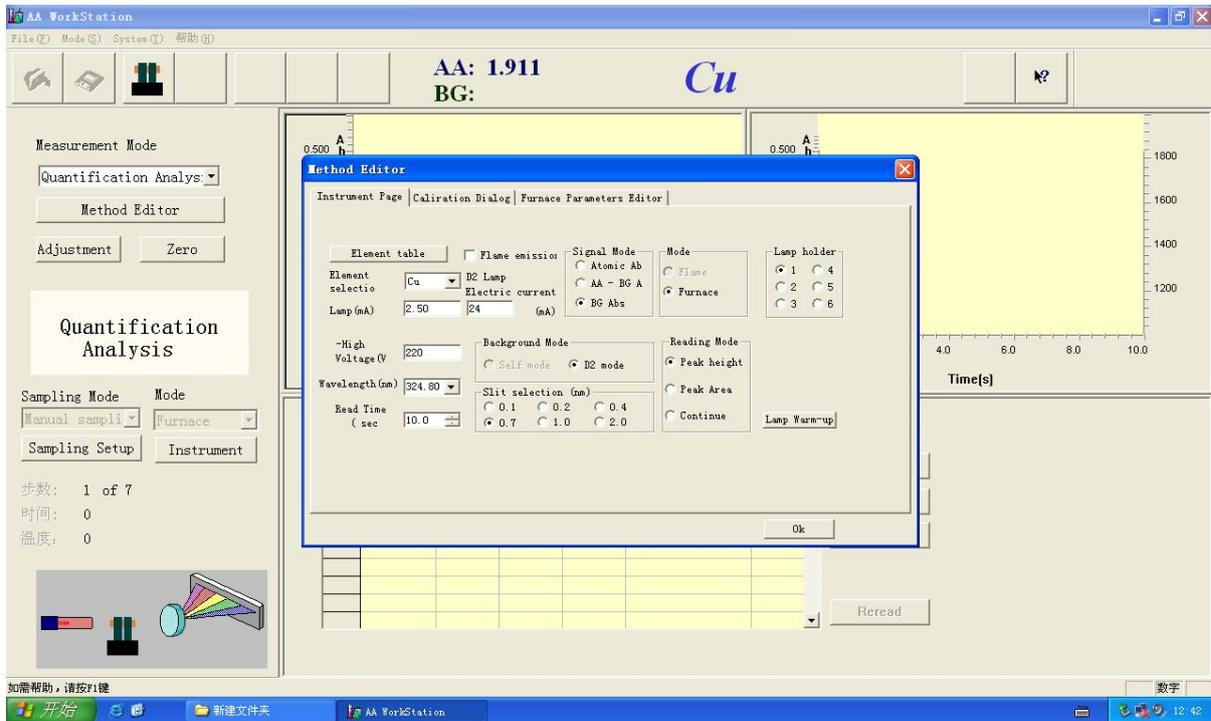

Figure 4-24
c. Select the "BG Abs" on "Signal Mode", the text box of "D2 lamp electric current" is valid (Figure 4-24)